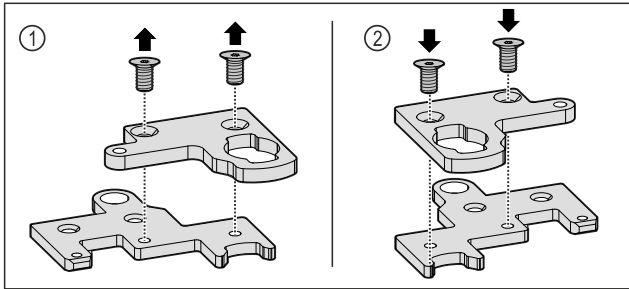

Fig. 29
- Disassemble the two-part hinge bracket. Fig. 29 (1)
- Reassemble the two-part hinge bracket rotated by 180°. Fig. 29 (2)